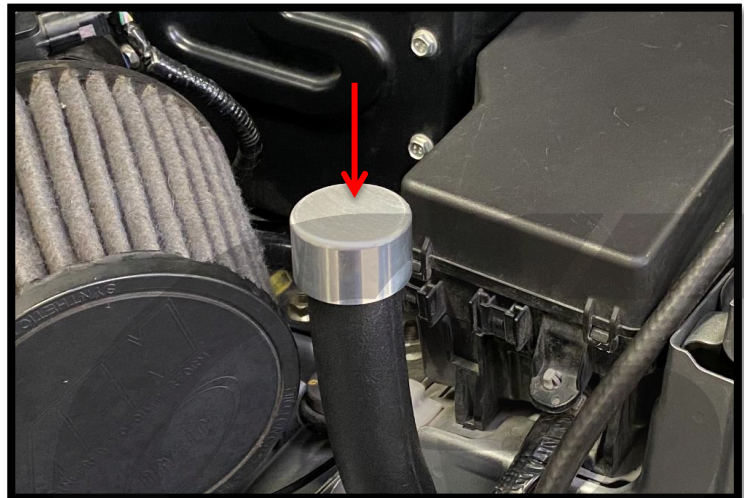

Figure 6a
- a) Place the fill cap over the end of the fill neck. Push firmly and it will slide into place as shown in **Figure 6a**. A snug fit is normal in order to ensure a good seal. NOTE: your fill cap will be black, the silver cap shown was an early prototype.